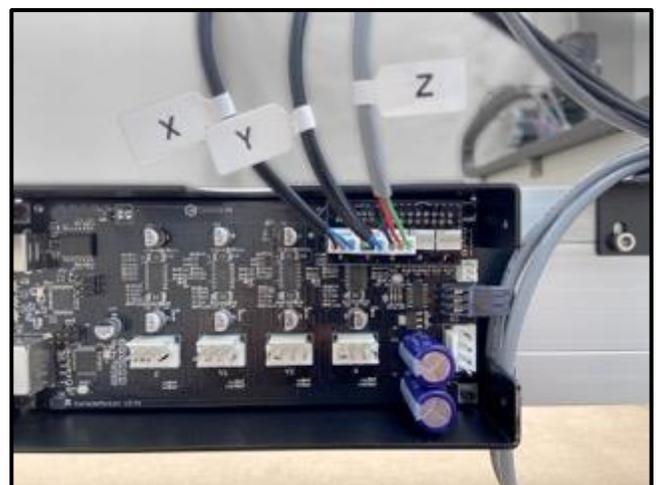

Figure 8-7
1. Plug the 3-pin proximity switch extension cables labeled “X,” “Y,” and “Z” into their respective ports on the PCB riser board. Be sure to match the labels on the cables with those of the board. The “P,” and “F” ports to the right remain empty. See *Figure 8-7*.